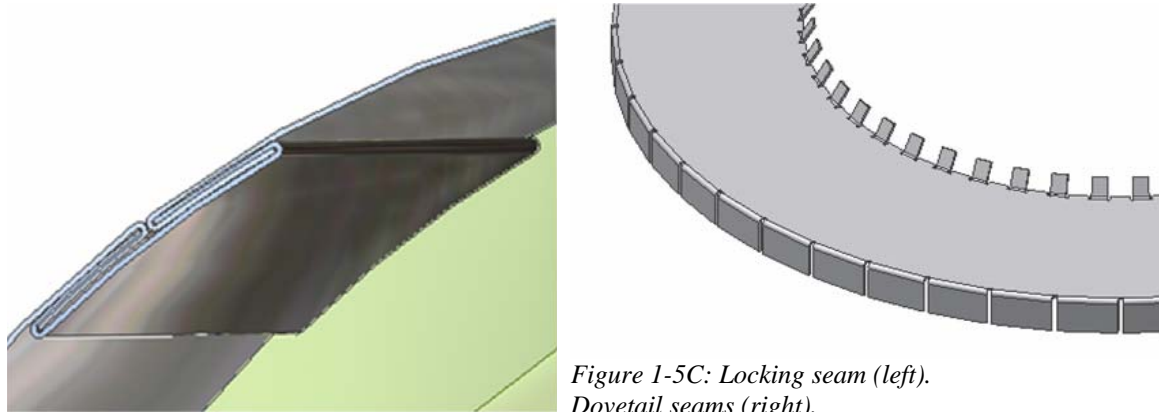

Figure 1-5C: Locking seam (left).
- **Seaming**: similar to hemming and includes soldering on lap seams, flat lock seams, grooved seams and other types of seams (*Figure 1-5C*). This parameter shall be ignored in most of the Modules.